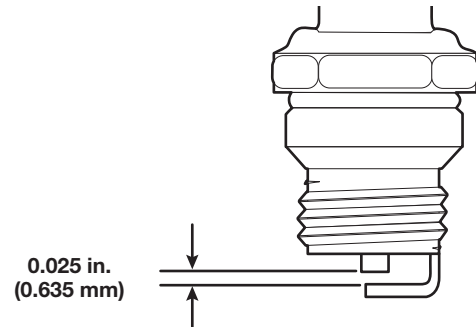

Fig. 41
6. Use a feeler gauge to set the air gap at **0.025 in. (0.635 mm)** (Fig. 41).